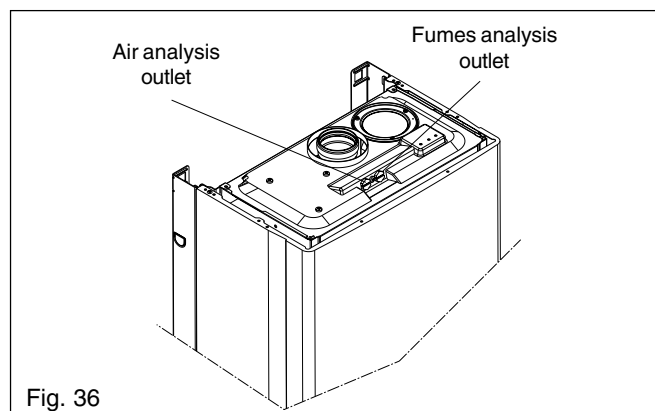

Fig. 36
- Locate and remove the CO test point sealing screw (see fig. 36).